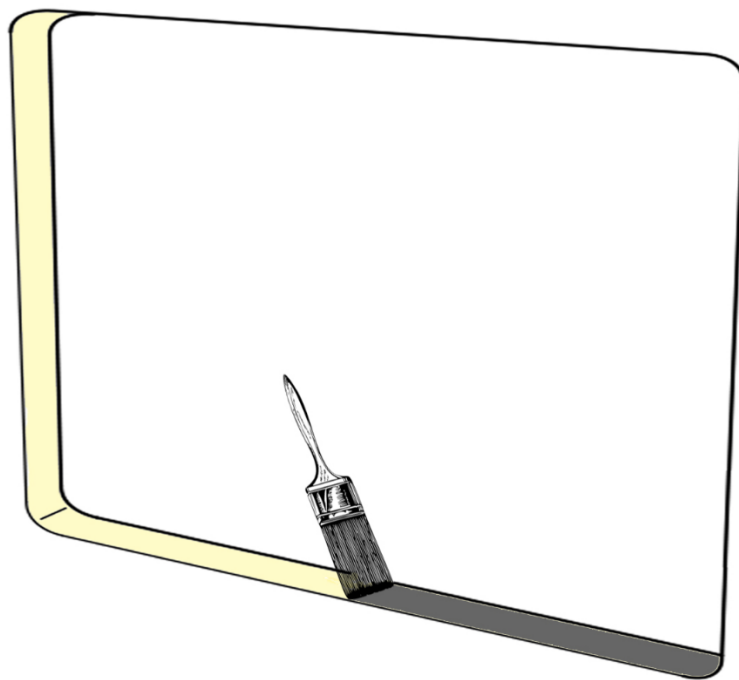

Fig 7
- Seal the exposed bare metal with a primer/metal oxide (to avoid rust) and make sure you use the correct protective clothing and goggles.(Fig 7)